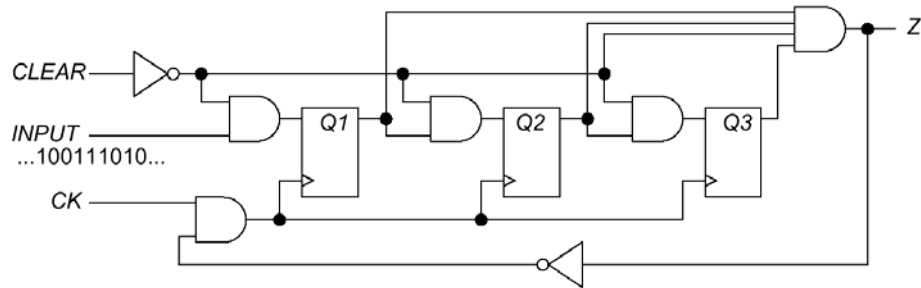

Figure 6. Circuit for Problem 7.
- ii. (5 pts) A circuit is to be tested on a DSP ATE with *sampling rate* $F_s = 8000$ s/s. Originally, the *integration interval* or *test interval* $P = 40$ ms, but that does not allow the number of *sampling intervals* $N \geq 400$. What is a test waveform frequency as close to 2000 Hz as possible that still generates $N \geq 400$ unique samples by adjusting the *primitive frequency* Δ ? How many *test waveform cycles* (M) will there be in the *primitive period*?
7. The circuit in Figure 6 is a sequence detector. A sequence 111 in the *INPUT* bit-stream locks the output *Z* to 1. The state of the circuit can be set to 000 with output *Z*=0 by applying *CLEAR*=1.